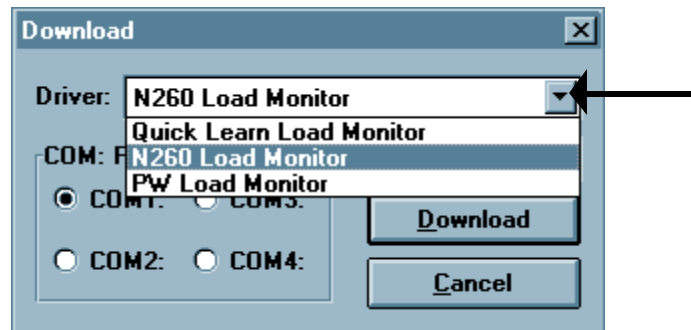

Figure 7: Driver menu in the Download window.
5. Choose your monitor in the Driver menu. (See Fig. 7).